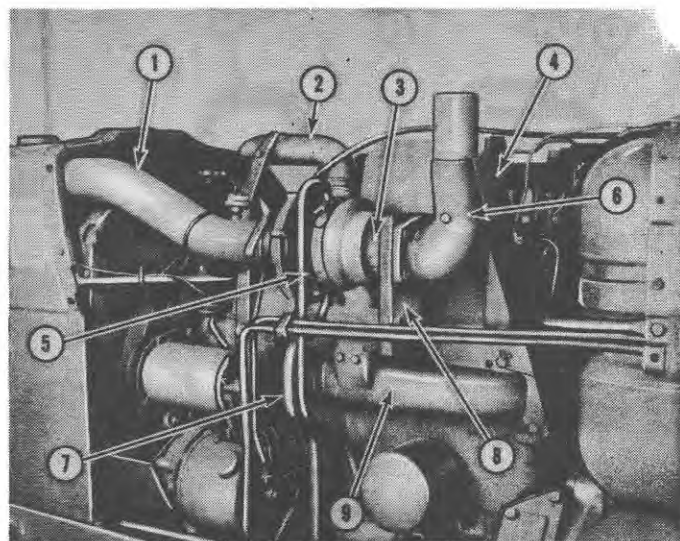

Figure 3
2. Remove the exhaust pipe by removing the four bolts from the exhaust flange, Figure 3.
4. Disconnect the air cleaner-to-turbocharger tube and the turbocharger-to-intake manifold tube, Figure 3, from the compressor side of the turbocharger by loosening the clamps securing the tubes to the turbocharger.